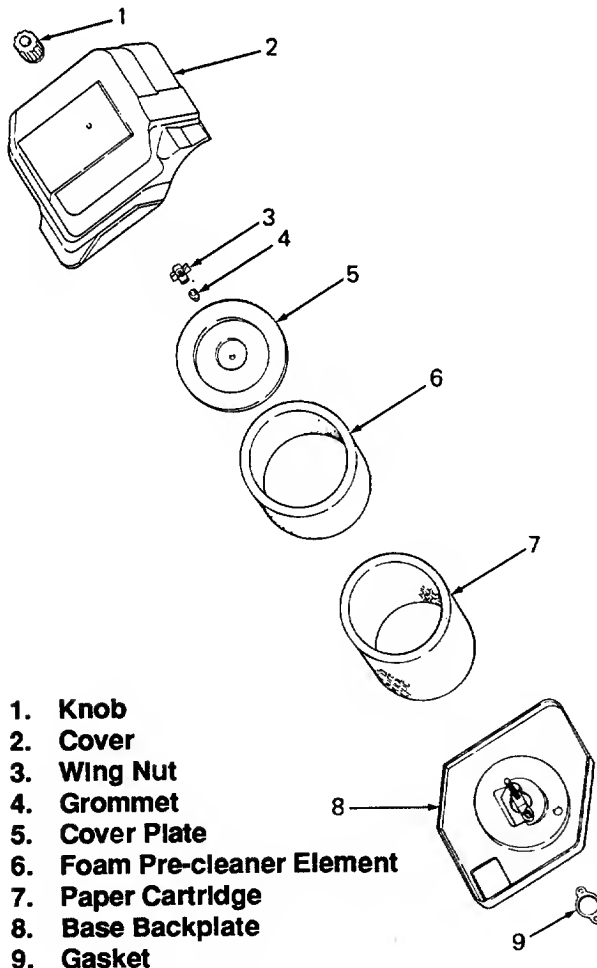

Figure 34. Air Cleaner Elements
2. Remove the precleaner from the paper element. (See Figure 34.)